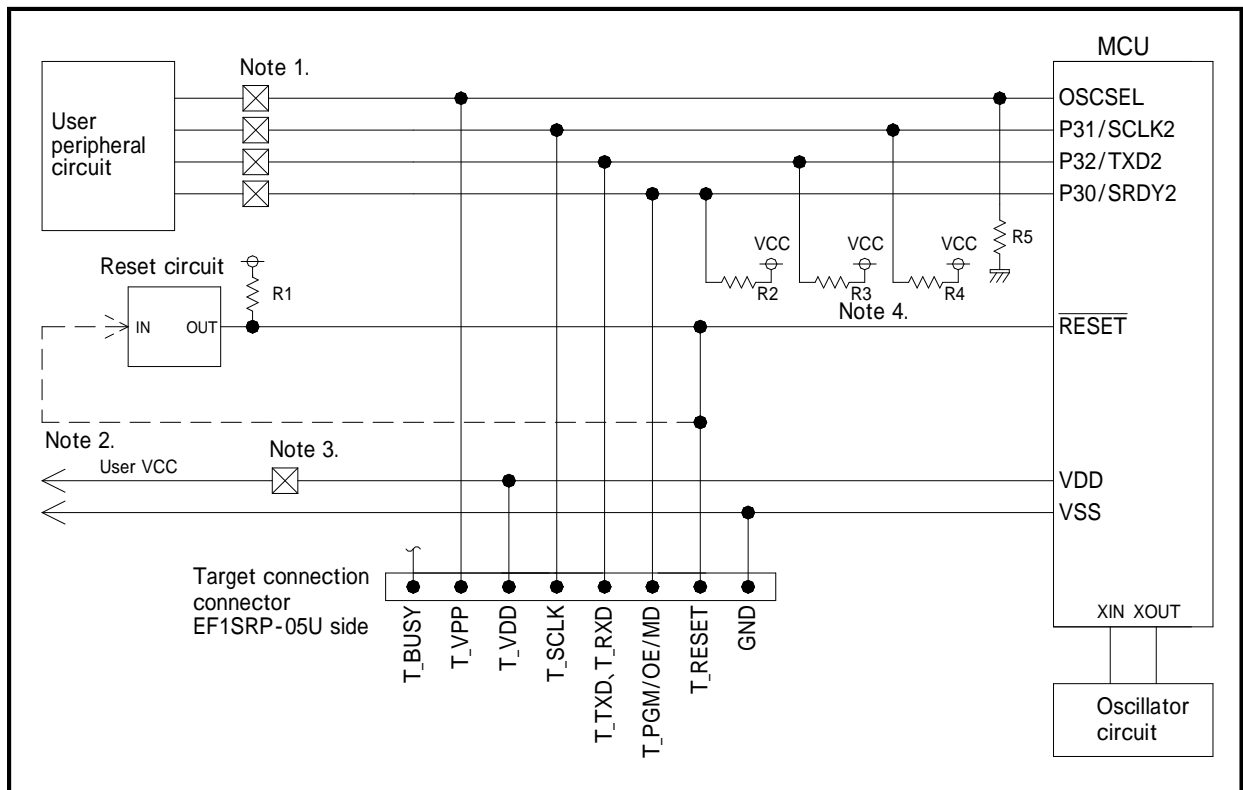

Fig 3.1: Target MCU peripheral circuit example
(1)An example of target MCU peripheral circuit when using the 38D2 groups is show in Fig 3.1.